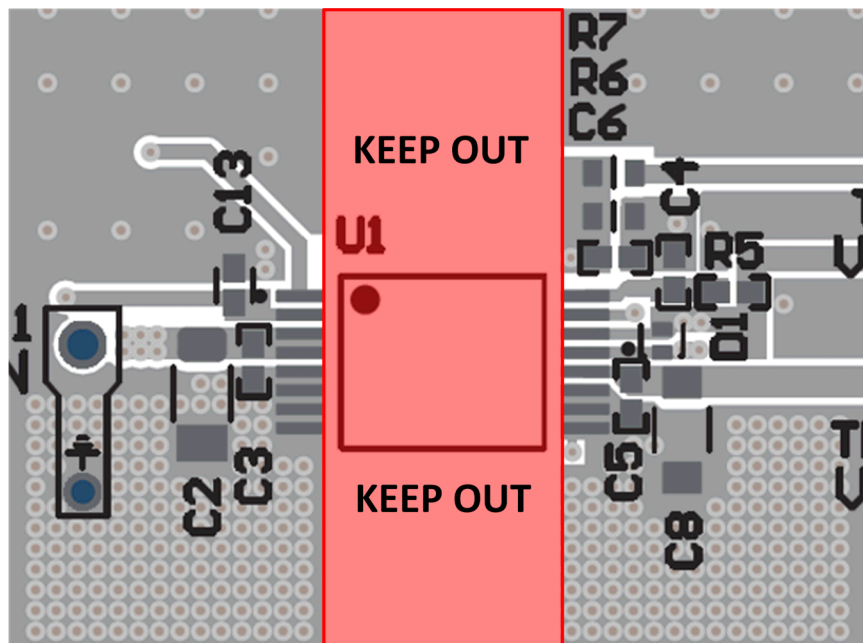

Figure 3-11. Isolation Keep Out Region
7. Creepage clearance: To maintain the full creepage, clearance and voltage isolation ratings specified in the data sheet, avoid routing signal traces or placing components directly under the UCC35131-Q1. Maintain the clearance width highlighted in red, throughout the entire defined isolation barrier. Keep-out clearance for basic isolation can be 50% less than the reinforced isolation requirement (8.2mm). Using 8.2mm provides additional margin. A layout example is shown in Figure 3-11.